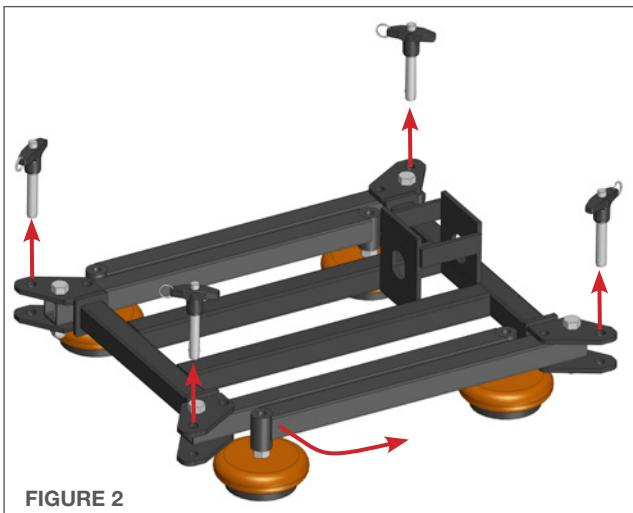
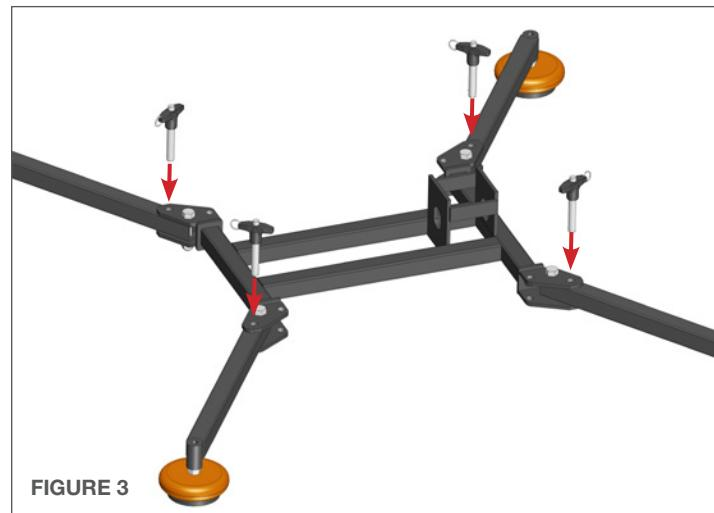

FIGURE 2
FIGURE 3
2. Remove the Quick Release Pins from the frame **(Figure 2)**, extend all the legs, and insert the Quick Release Pins back into the opposite holes in the frame. **(Figure 3)**